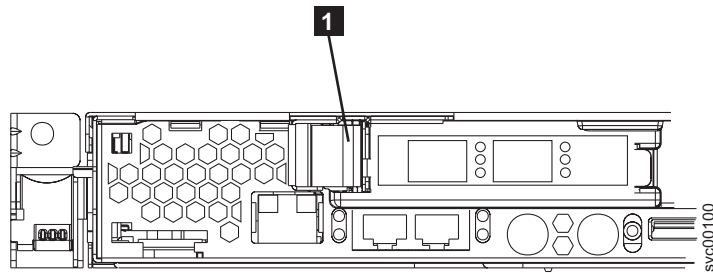

Figure 112. PCI slot 1 card retainer
- a. Pull the blue PCI card retainer **1** from the rear of the node. See Figure 112.